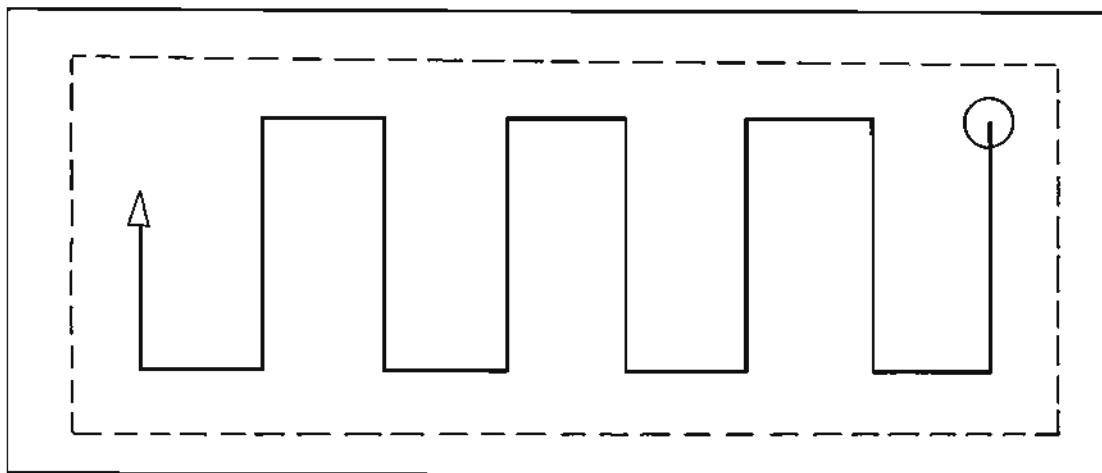

Figure 10-14. Creeping line search pattern.
These patterns are used when information about the distressed vessel is limited to a line between two points, and when the vessel may be on either side of that line due to navigational error or drift (Figure 10-14). These patterns are generally selected when (1) rapid advancement of successive search legs along a given track is desired; (2) for coverage of the most probable area first.